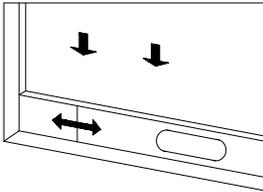

Figure 2
1) Half open the window ,and mount the window sealing plate assembly to the window (as shown in Fig.2 and